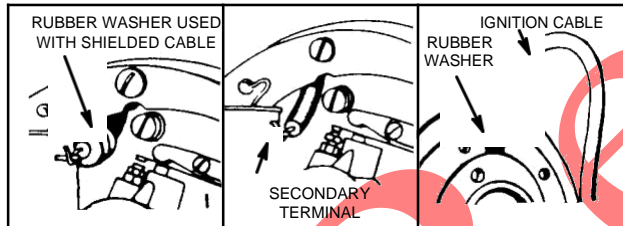

Fig. 23 – REPLACING IGNITION CABLE
Assemble Part #66128 (NLA), rubber washer to ignition cable so it will be against the magneto plate on the outside, Fig. 23, Ill. 3. This will prevent water from entering the magneto. Push ignition cable through the hole in magneto plate. Loop end of cable through hole in terminal on coil, then bend wire with pliers until it is securely fastened to the terminal. **DO NOT SOLDER**, Fig. 23, Ill. 2.
**NOTE:** On ignition cables with shielding, the rubber washer, Part #66128 (NLA), is assembled to cable at inside end, Fig. 23, Ill. 1. If ignition cables are made from spool stock, the end attached to coil should be tinned before assembly so that it will be stiff enough to hold firmly to terminal.